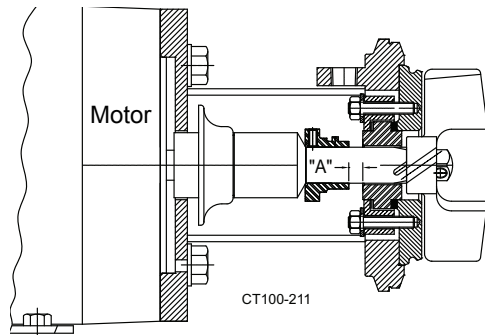

Figure 30 - Drive Collar Adjustment for "DG" Seal
Table 5: Callout dimensions for Figure 30
5. Using an appropriate tool, set the drive collar to the dimension "A" as shown in Figure 30, and tighten the setscrew of the drive collar.